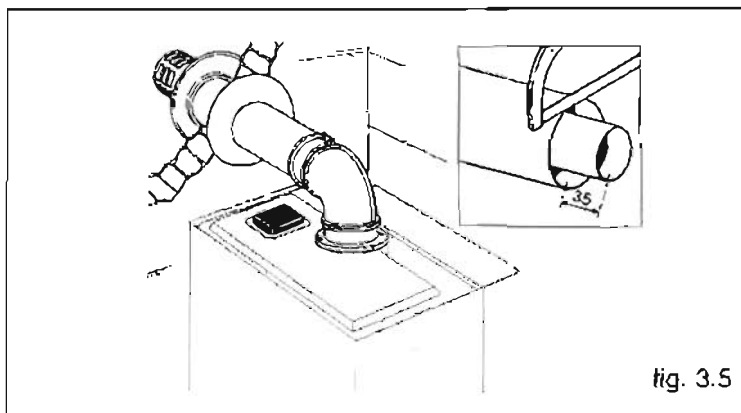

fig. 3.5
**N.B. :** When shortening the flue pipe, cut the external 100 diam. pipe and the internal 60 diam. pipe, keeping the original difference in length between the two ( 35 mm ). ( see fig. 3.5 ).